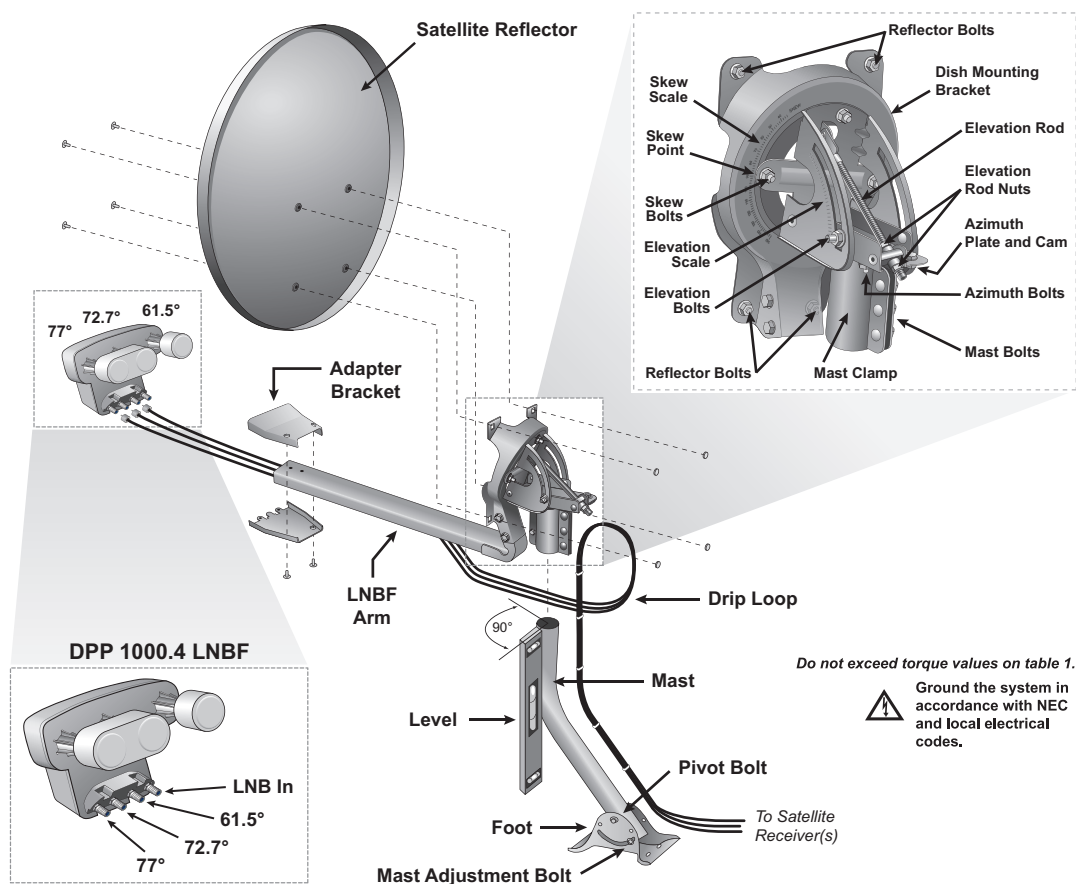
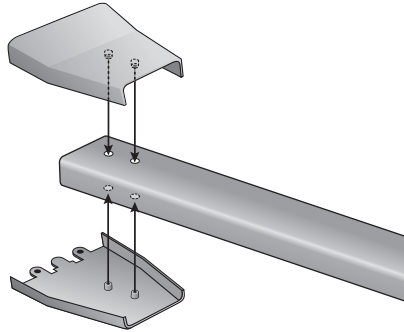

Figure 1. DISH 1000.4 Antenna Installation Overview
Figure 3. Bracket posts fitting into LNB arm (bolt holes removed for clarity)
The DISH 1000.4 includes enhanced peaking controls for the azimuth and elevation settings that provide the ability to more easily obtain an optimal peaking of the dish antenna. Refer to Figure 1 on page 2 for more details on the enhanced peaking controls.
- 3 Align the top part of the mast so that it is absolutely vertical. If the top part of the mast is off vertical by only a few degrees, it will be difficult or maybe even impossible for you to find the satellites. Take at least two readings with a level, on the upper mast, that are 90 degrees apart from one another (see Figure 1).
Assemble the satellite dish as shown in Figure 1, except do not attach the LNB at this time. The LNB Arm has a specific orientation, indicated by the labeling Top and To LNB. When attaching the DISH 1000.4 LNB Bracket to the LNB Arm, be sure that the small posts on the bracket fit into the holes on the LNB Arm (see Figure 3).
Use the steps below while referring to Figure 1.